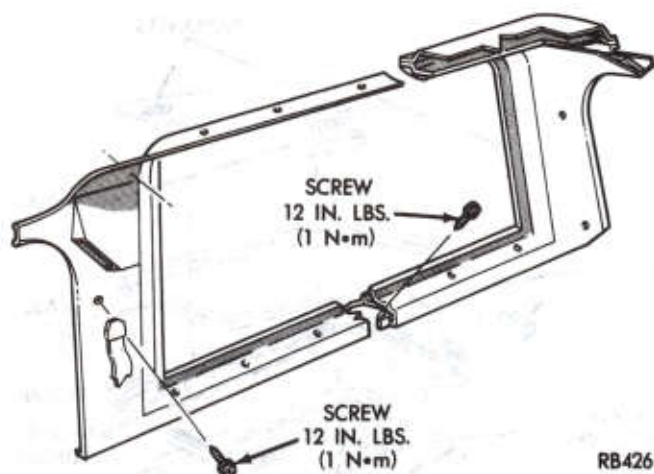

Fig. 8—Quarter Window Garnish Moulding
- (1) Remove interior quarter glass trim (Fig. 8).